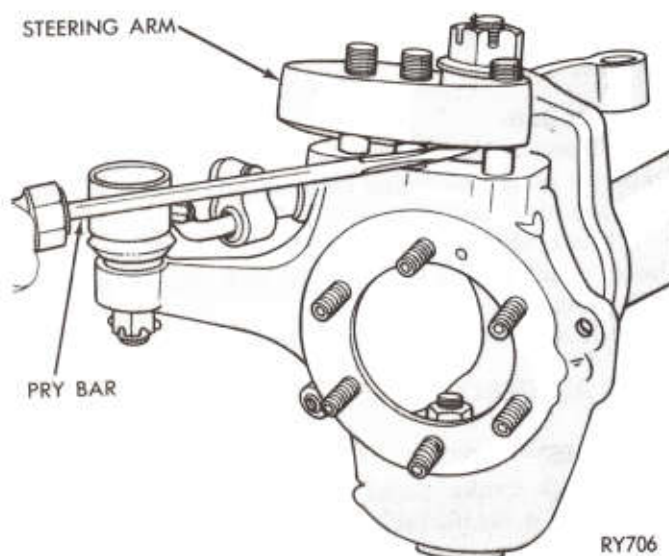

Fig. 22—Removing Steering Knuckle Arm
(1) Raise vehicle to a comfortable height and install jack stands.
(2) Turn wheels to the left. Remove cotter key and nut and disconnect drag links. See "Drag Link", "Removal" in this group.
(3) Remove three steering knuckle arm to steering knuckle mounting nuts and cone washers (Fig. 22). Tap steering knuckle arm to loosen. Remove steering knuckle arm.